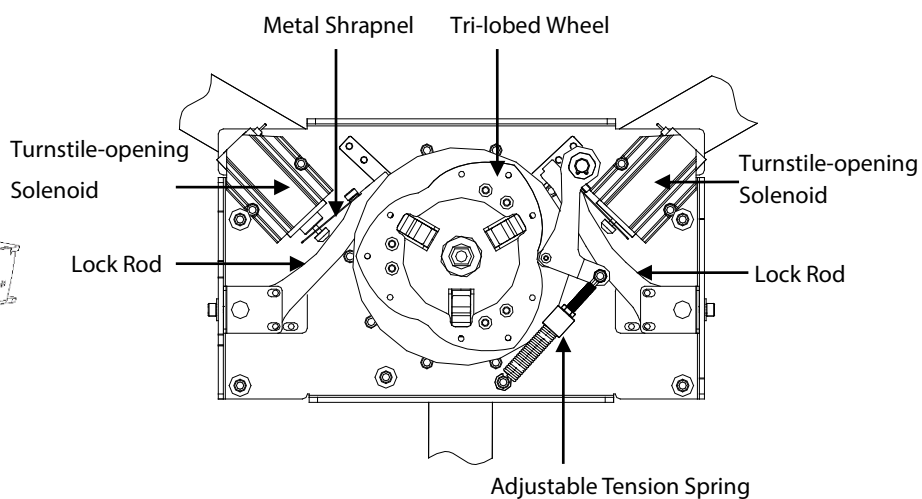

Figure 5-3
Figure 5-3 shows the mechanical and electrical structure of this equipment.
The passing is not smooth after the turnstile is opened, it encounters resistance when pushing the arms, and the arms cannot return to the home position after they rotate.	It is caused by the Adjustable Tension Spring. Adjust the Adjustable Tension Spring, as shown in figure 5-3.
2. Check whether the Turnstile-opening solenoid is operating, and check whether the Turnstile-opening solenoid is stuck or the Metal Shrapnel is broken, as shown in figure 5-3.